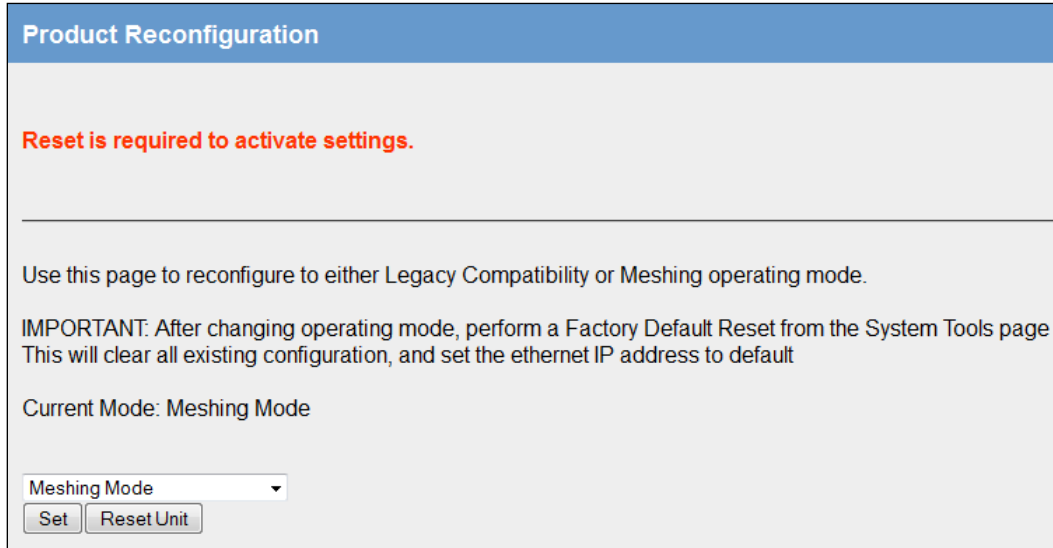

Figure 79 - Product Reconfiguration
5. The 'PWR' LED will flash as per Figure 79 -